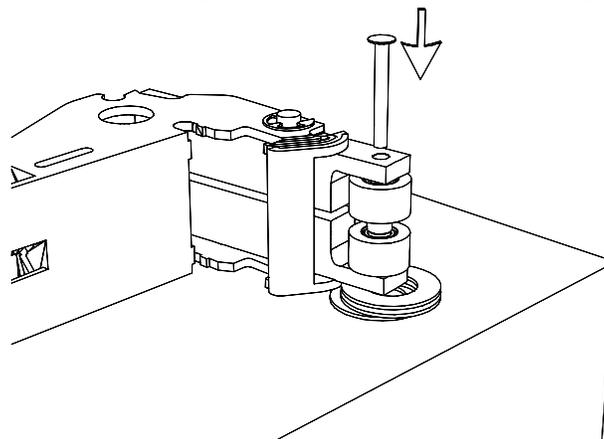

Fig. 18 - Removing the wheel pin with a small diameter bolt
- 1) Place the pinch wheel assembly on a solid metal surface with the washers under the right side of the pinch wheel assembly. Make sure the pin can go through the holes in the washers. With a flat nail, or small diameter bolt, place on the wheel shaft, and pound the pin out using a hammer or hand press. There is only one direction the pin will come out, so make sure you have the wheel assembly positioned as shown in Fig. 18